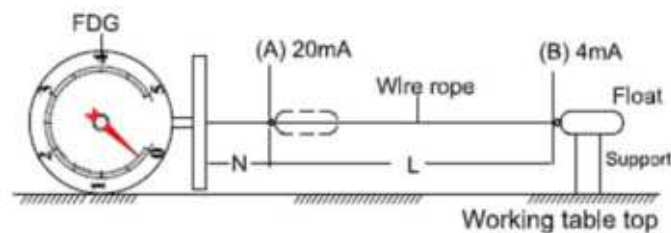

Fig 17
9.2 Re-Calibration of Transmitter (fig 17)